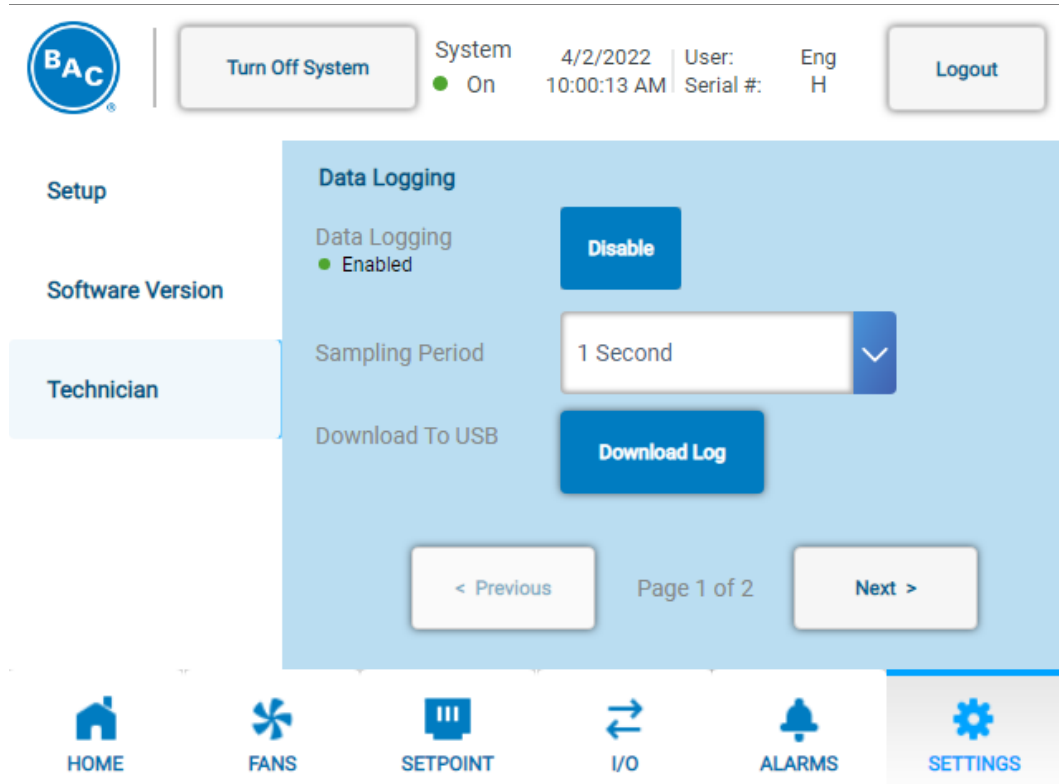
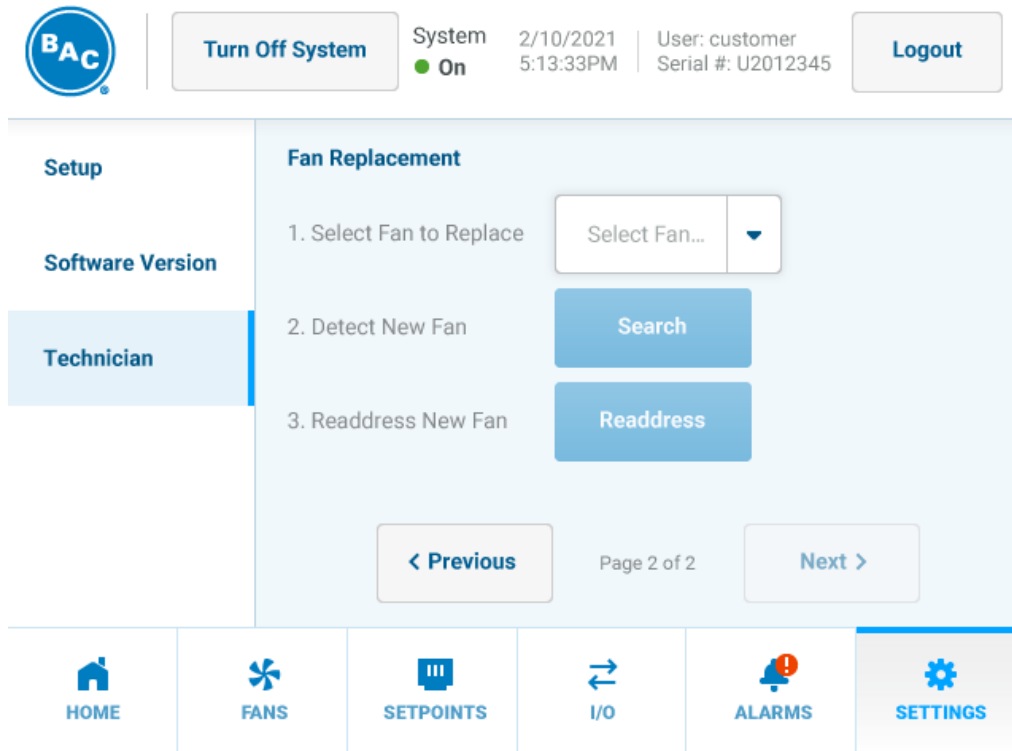

Figure 79. Settings Menu, Technician Page 1 of 2
Figure 80. Settings Menu, Technician Page 2 of 2
The Technician menu is only displayed and accessible with Technician access level. Refer to **Table 8. Access Levels and Passwords** on **Page 44**. The Technician menu is shown in **Figure 79** and **Figure 80** with parameters listed in **Table 34**.
Onboard data logging records and stores data listed in **Table 35** which can be loaded onto a portable USB storage device in a comma separated value (CSV) file. The sampling period is determined by the Sampling Period shown in **Figure 79** and listed in **Table 34**. This information can be used for troubleshooting or energy modeling purposes. Data logging can be enabled/disabled via the Technician menu shown in **Figure 79**. To retrieve data logging information:
2. Navigate to Settings menu, Technician Page 1 of 2 shown in **Figure 79**. Press “Download Log”. A loading bar will appear and display the current progress of the file downloads until complete.
2. Navigate to Settings menu, Technician Page 2 of 2 as shown in **Figure 80**.